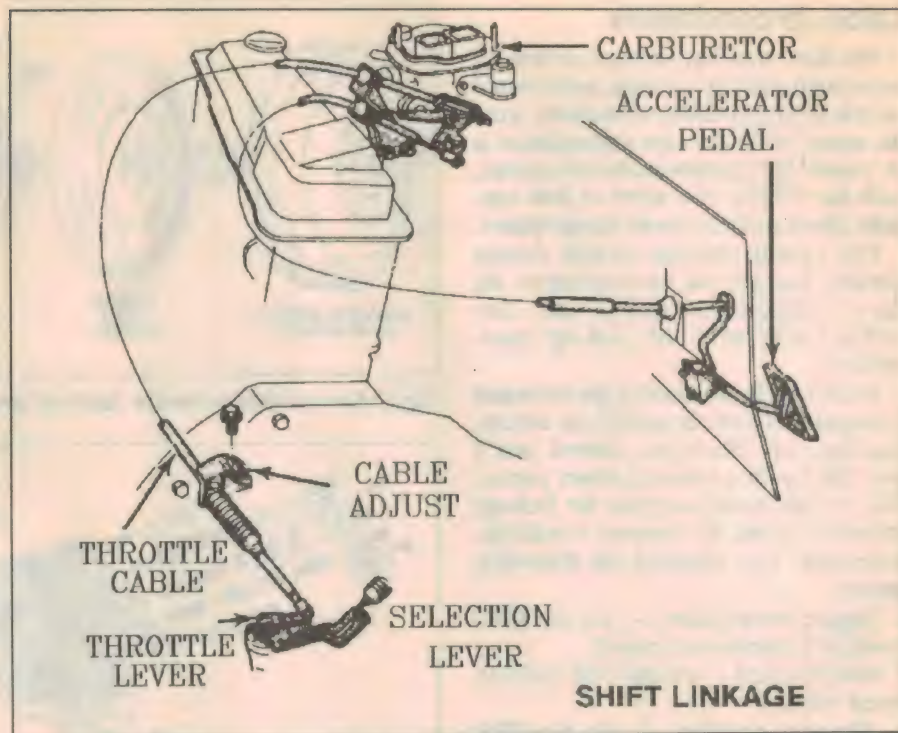

Fig.5: With the 'TV' or throttle valve system of torque converter clutch control (TCC), information on engine loading is sent by a mechanical throttle linkage.
2. TV (throttle valve) CONTROL: This is a *mechanical* monitor of engine load. It may take the form of a rod or a cable (Fig.5), one end of which is attached to the transmission. The other is simply attached to the carburettor or throttle body arm.